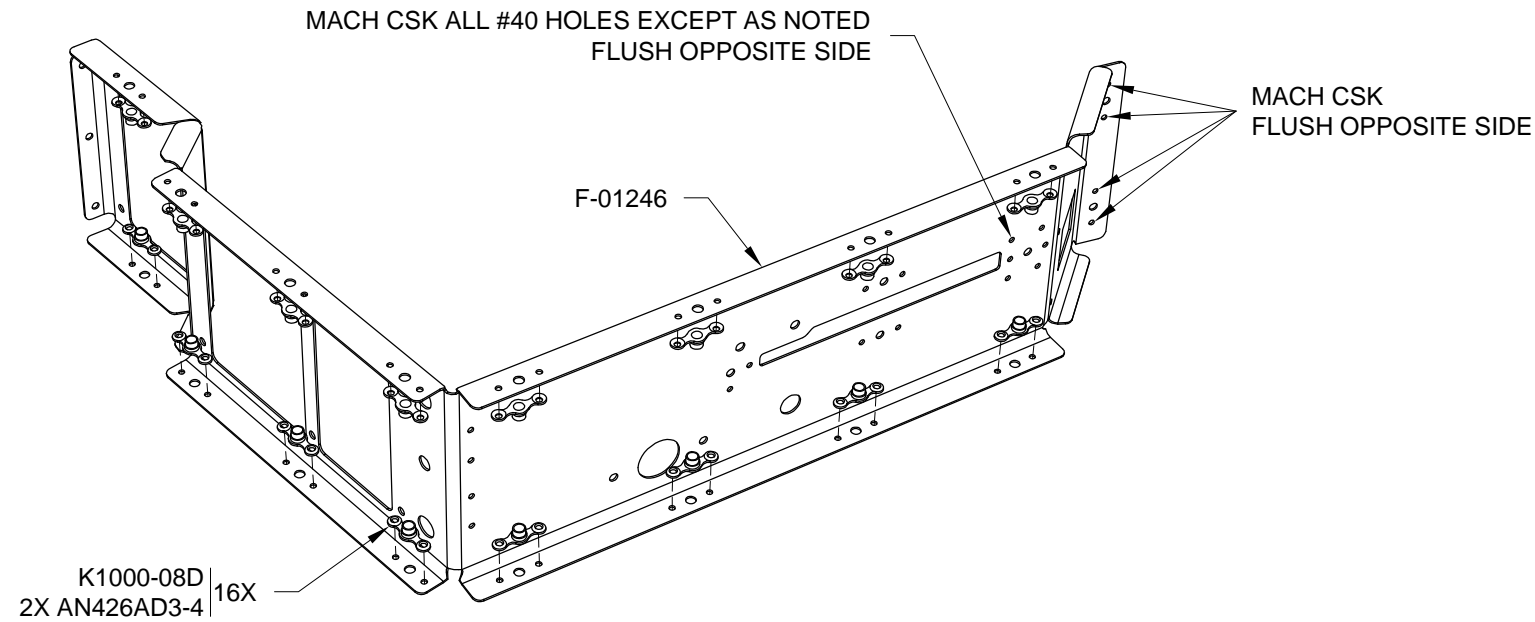

FIGURE 1: F-01246 NUTPLATE INSTALLATION
Step 1: Dimple #40 the nutplate rivet holes in the side flanges of the F-01246 as shown in Figure 1, then rivet the nutplates along the side flanges of the F-01246 as shown.
Step 2: Machine countersink the remaining #40 holes in the F-01246 as shown in Figure 1.